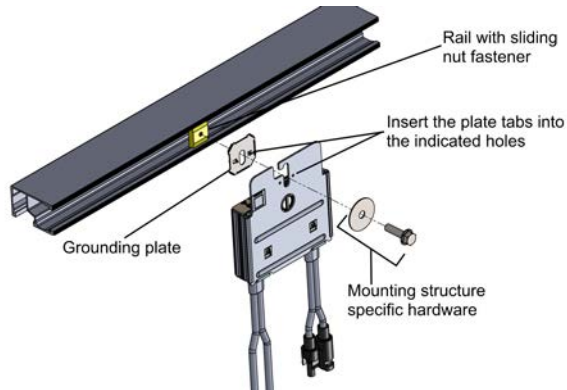

Figure 4: Power optimizer installation and grounding using a grounding plate
- For mounting on rails with sliding nut fasteners:** If the star washer cannot be used, use the SolarEdge grounding plate (purchased separately) between the railing and the flat side of the mounting bracket. Use mounting specific hardware as needed. Apply a torque of 9.5 N\*m / 7 lb\*ft. See *Figure 4*.